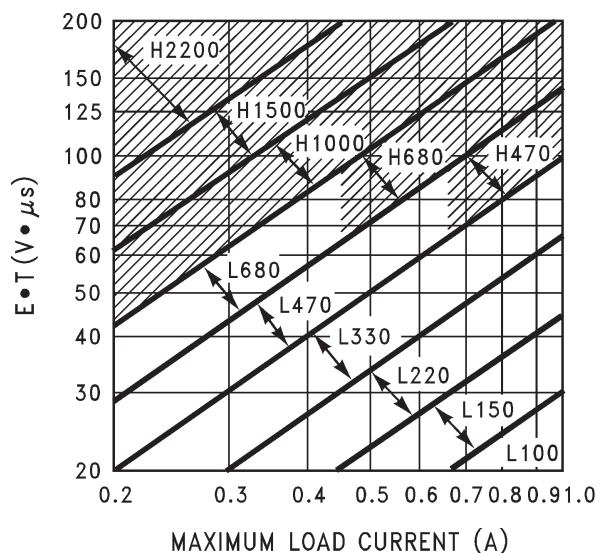

Figure 12. LM2575 Inductor Selection
2. Inductor Selection (L1) A. Calculate the "set" volts-second ($E \times T$) across L1: $E \times T = (V_{IN} - V_{OUT}) \times t_{on}$ $E \times T = (V_{IN} - V_{OUT}) \times (V_{OUT} / V_{IN}) \times \{1000 / f_{osc}(\text{in kHz})\} [V \times \mu s]$ NOTE: Along with I_{LOAD} , the "set" volts-second ($E \times T$) constant establishes the minimum energy storage requirement for the inductor. B. Using Figure 12, select the appropriate inductor code based on the intersection of $E \times T$ value and $I_{LOAD(Max)}$. C. The inductor chosen should be rated for operation at 52-kHz and have a current rating of at least $1.15 \times I_{LOAD(Max)}$ to allow for the ripple current. The actual peak current in L1 (in normal operation) can be calculated as follows: $I_{L1(pk)} = I_{LOAD(Max)} + (V_{IN} - V_{OUT}) \times t_{on} / 2L1$ Where $t_{on} = V_{OUT} / V_{IN} \times (1 / f_{osc})$	2. Inductor Selection (L1) A. Calculate the "set" volts-second ($E \times T$) across L1: $E \times T = (25 - 10) \times (10 / 25) \times (1000 / 52) [V \times \mu s]$ $E \times T = 115 \text{ V} \times \mu s$ B. Using Figure 12, the intersection of $115 \text{ V} \cdot \mu s$ and 1 A corresponds to an inductor code of H470. C. H470 \rightarrow L1 = 470 μH Choose from: 34048 (Schott) PE-53118 (Pulse Engineering) RL1961 (Renco)
Figure 12 shows the inductor value selection guide for continuous-mode operation